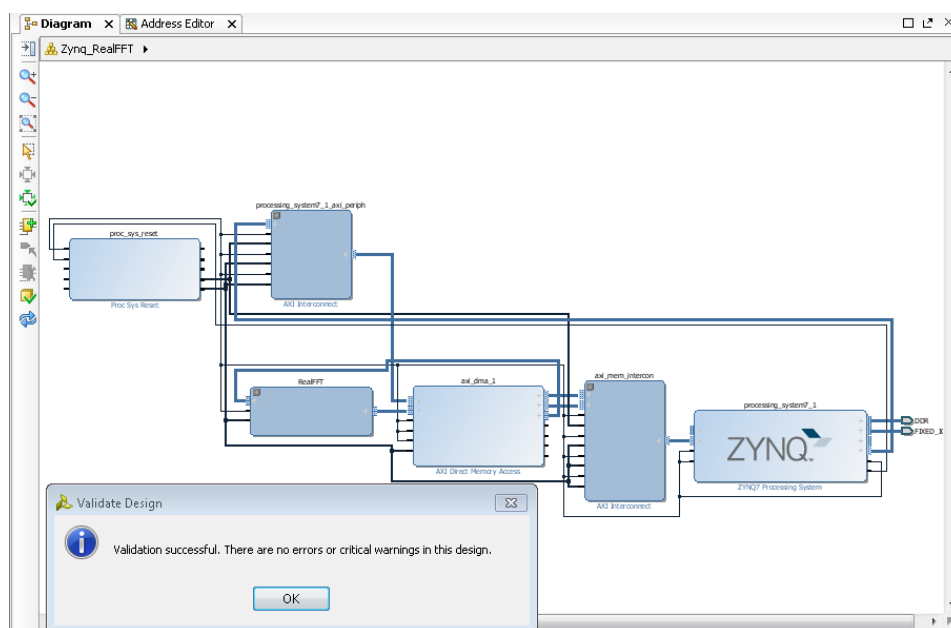

Figure 263: Final Validated Design
30. To view the completed design, run Validate Design by clicking the icon in the toolbar (Figure 263).